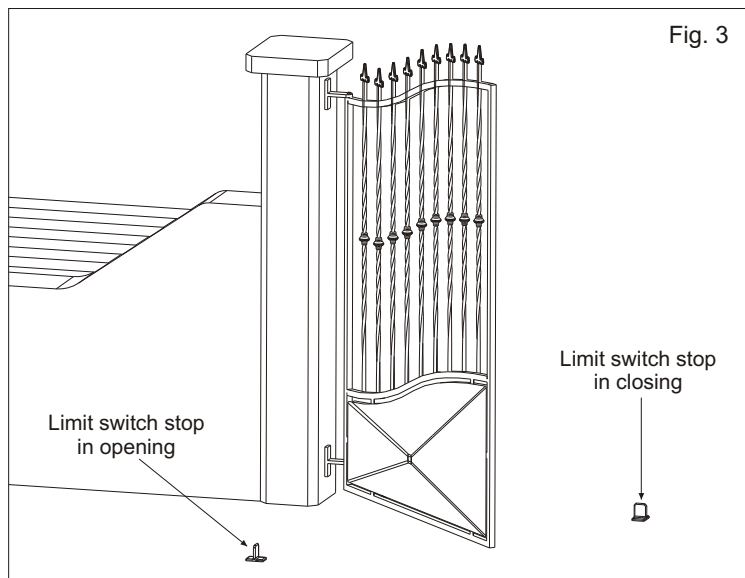

Fig. 3
- E.** as the limit switches are not provided within the actuator, it is necessary to install mechanical limit switches stops to be fixed to the ground in closing and in opening (Fig. 3).